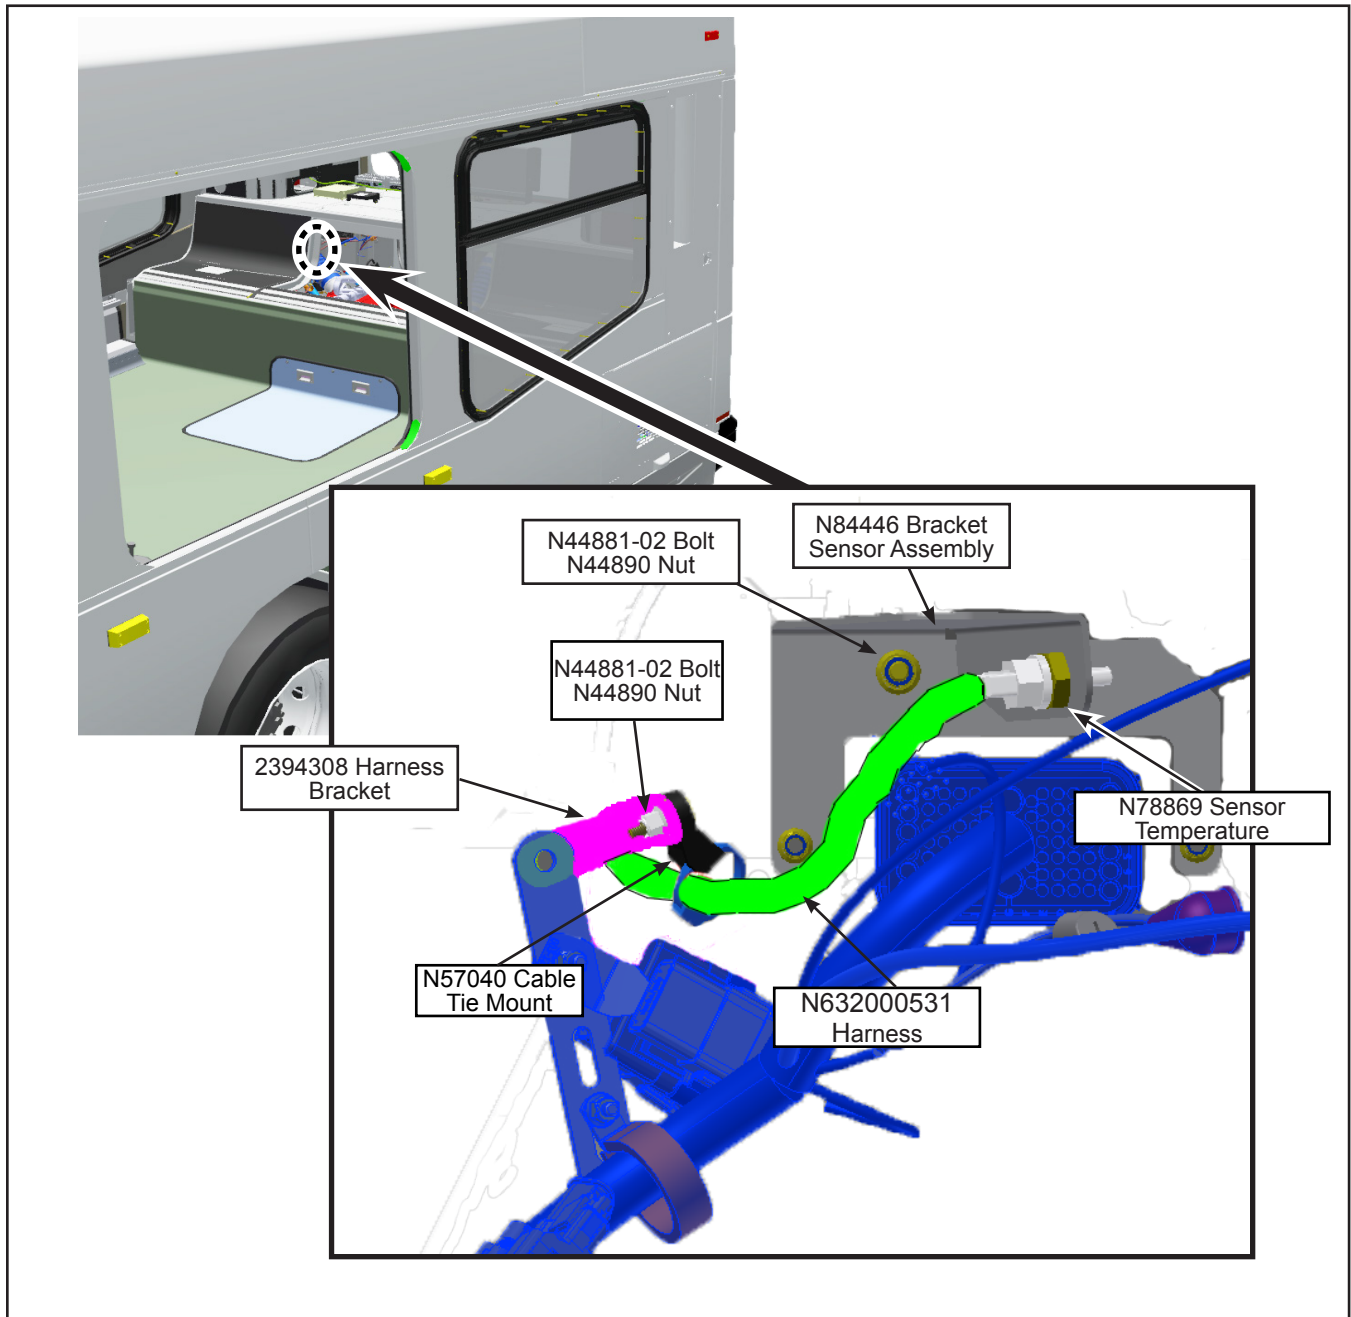
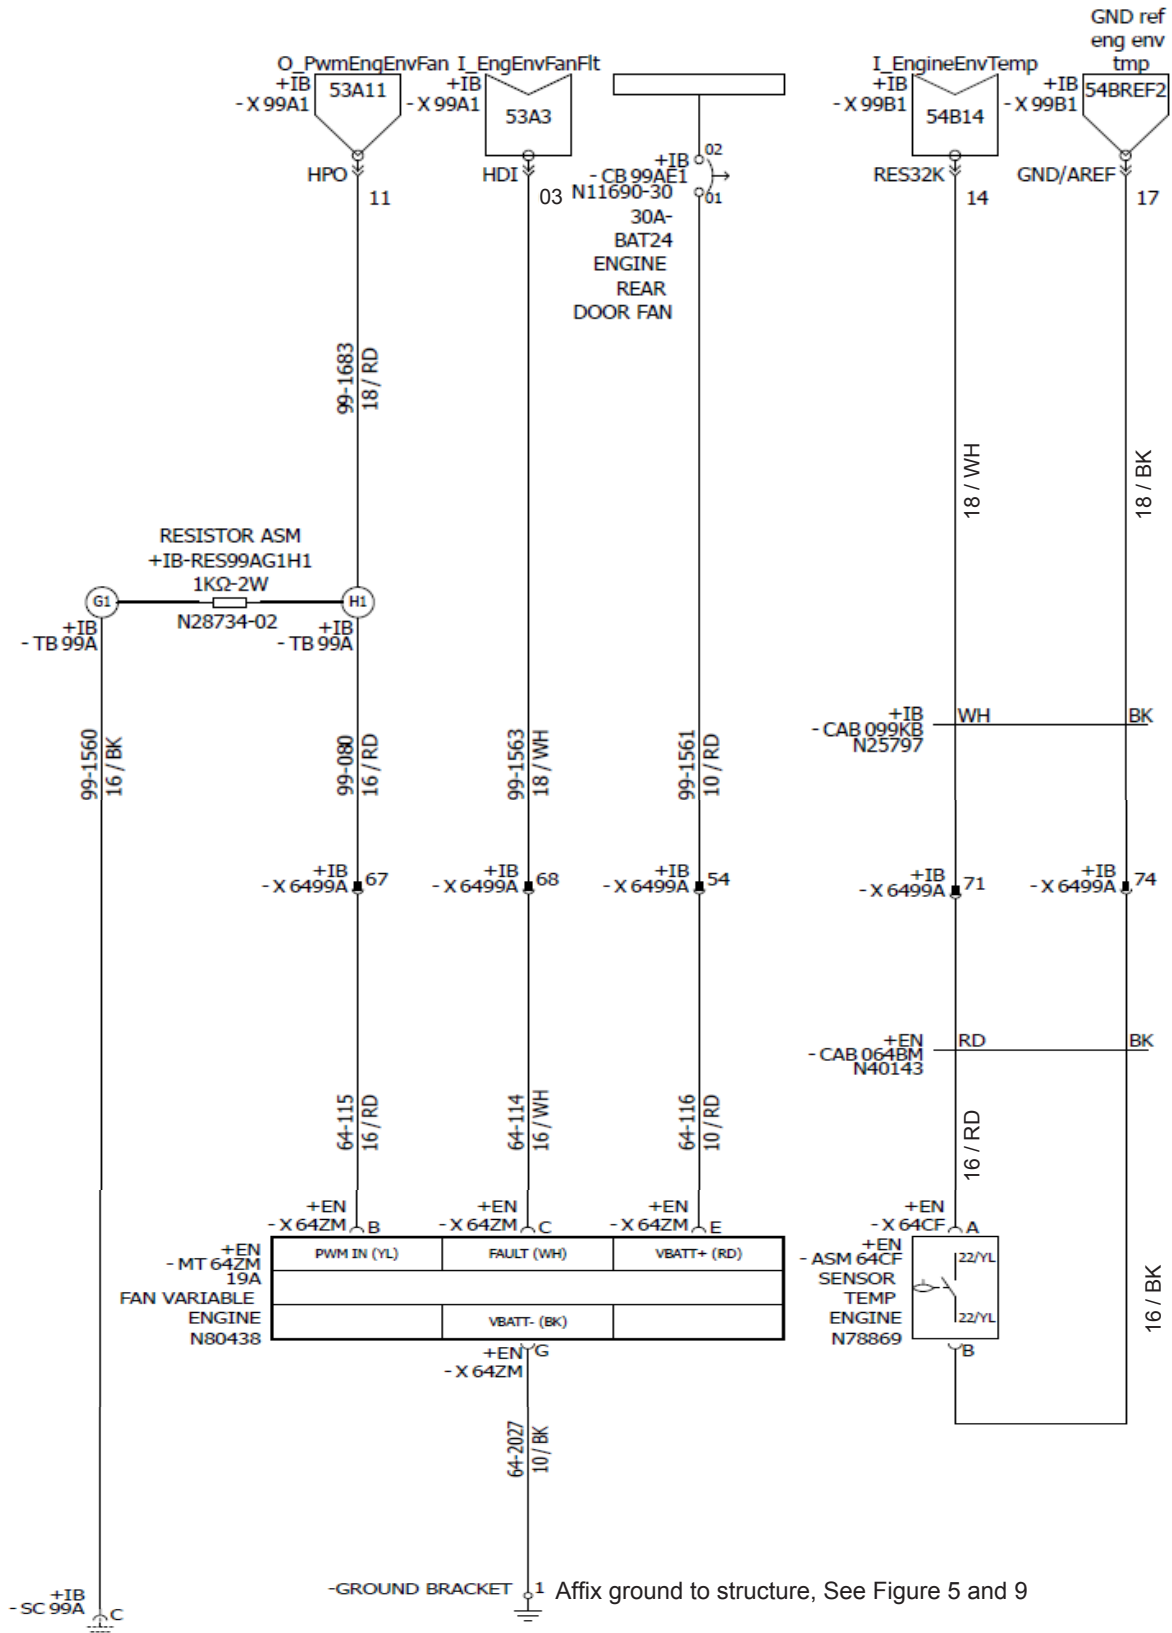

Figure 7 - Install and Connect Temperature Sensor
Figure 8 - Electrical Diagram
- 1.18. Install the N57040 cable tie mount onto the 2394308 harness bracket with an N44881-02 bolt and N44890 nut. See Figure 7.
- 1.19. Use the rear seat hatch to access the engine compartment. Install the 2394308 harness bracket with existing hardware. See Figure 7.
- 1.21. Connect the heat sensor to the harness as indicated in the electrical wiring diagram. See Figure 8. Install the sensor. See Figure 7.
1.22. Install harness as shown in the electrical wiring diagram. See Figure 8.